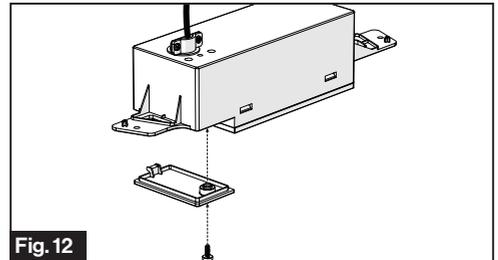

Fig. 12
- Fit all cables into the cable compartment and tuck any excess wires up out of the way. Tighten the cover with screw. (Fig. 12)